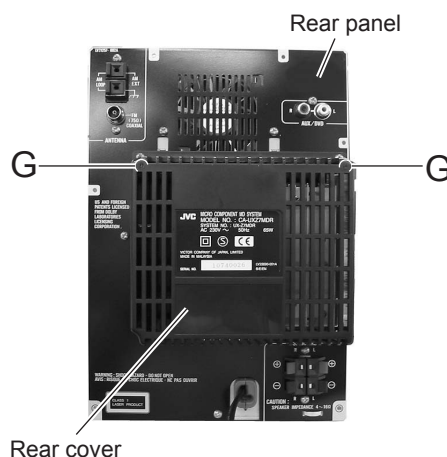

Fig.13
2.1.5 Removing the rear cover (See Fig.13.)